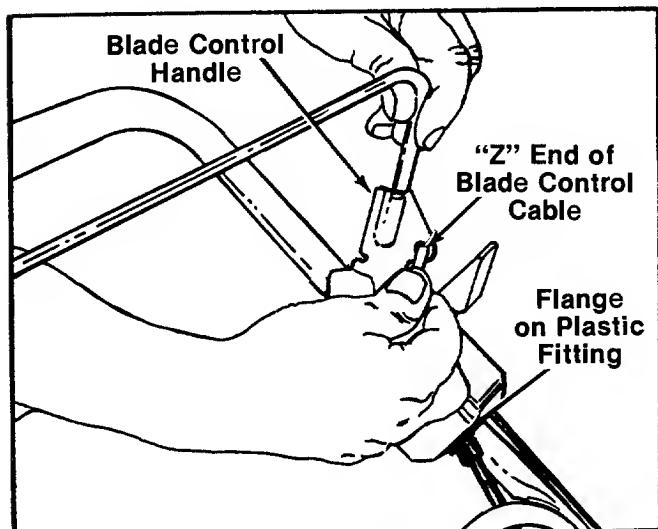

FIGURE 6.
8. Hook the "Z" end of the blade control cable into blade control handle. See figure 6. If additional slack is needed in order to hook the cable into the handle proceed as follows: